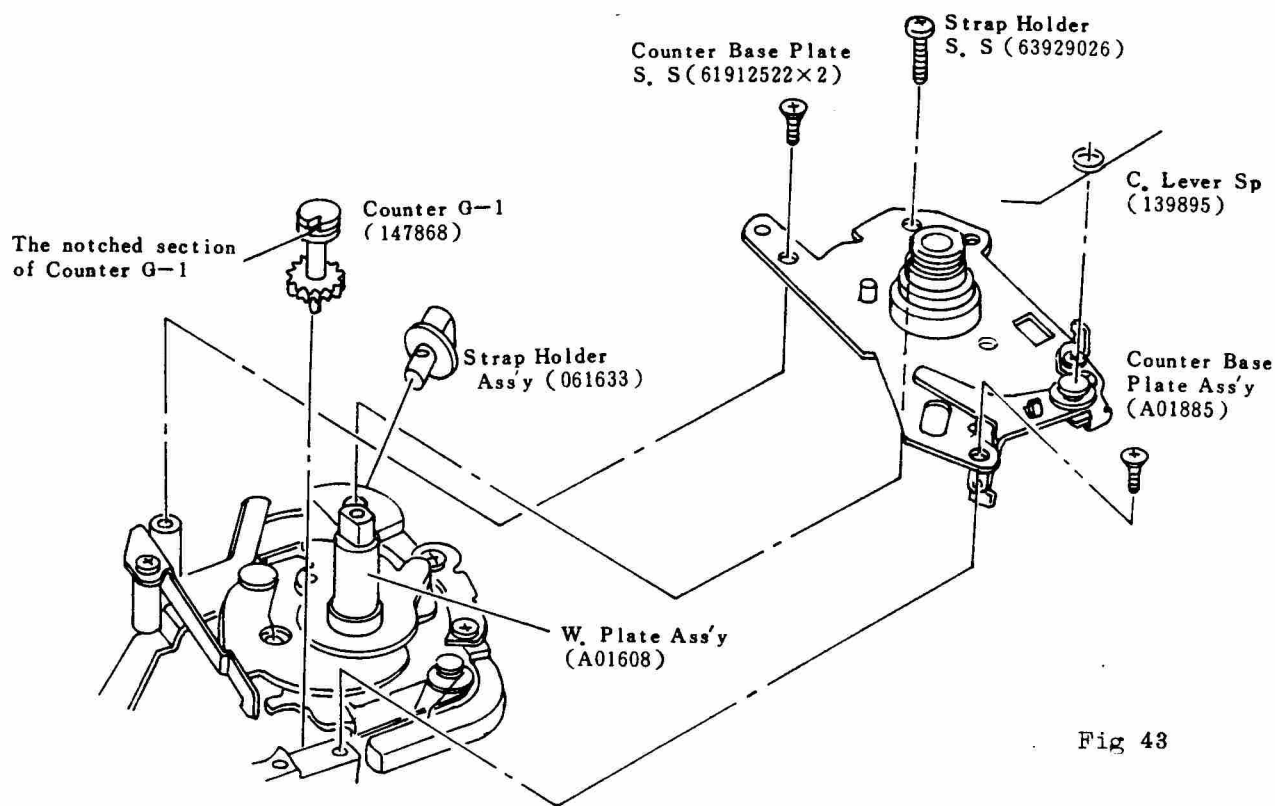

Fig 43
- a) Set the W. Plate Ass'y (A01608) as shown in (Fig 43).
- c) Insert and position the notched section of Counter G-1 (147868) opposite to the W. Base Ass'y (A01608) as shown in (Fig 43).